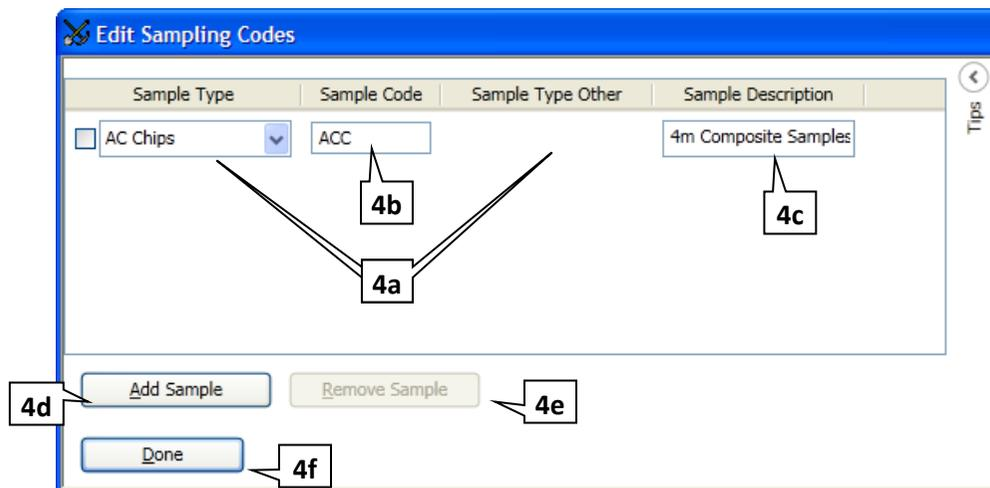

Figure 18 - Edit Sampling Codes Window
4. **Enter Sample Codes** by pressing the **Edit Sample Codes** button. These are details of the field sampling procedures (See Figure 18).
These are details of the field sampling procedures (See Figure 18).